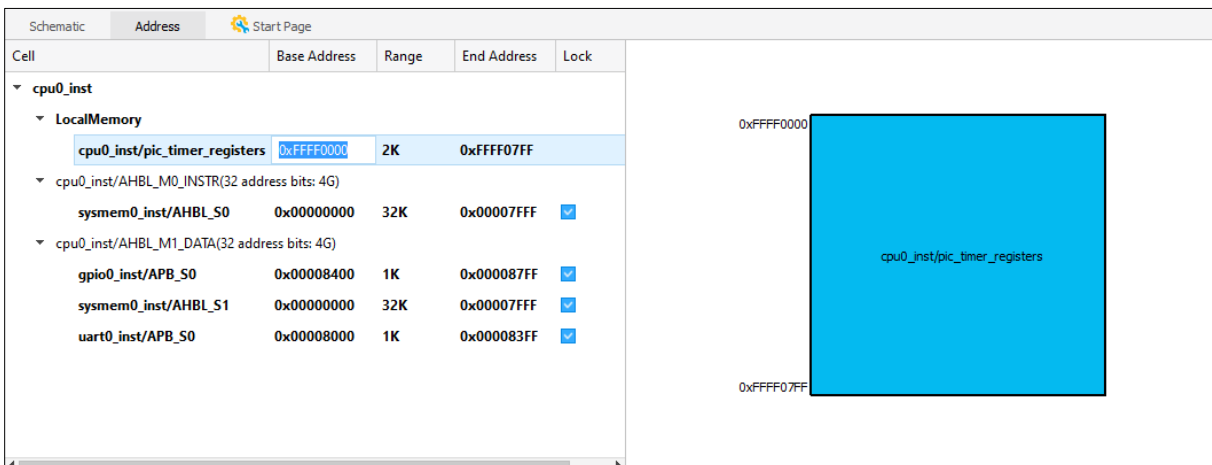

Figure 2.112. Edit Base Address
3. (Optional) Double-click the base address in Address view (Figure 2.112). Type the new value and press **Enter**.